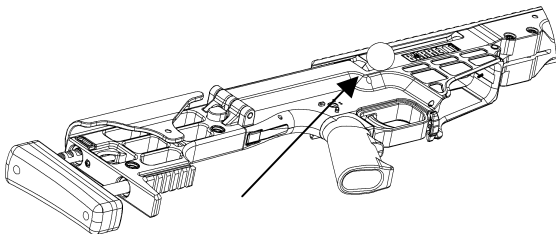

Figure 20.
4. Turn the rifle over and inspect the location of the bolt handle. The bottom of the bolt handle should be making contact with the receiver. (Figure 20.)